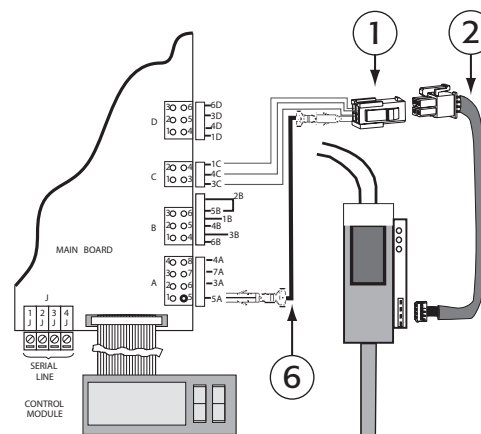

Fig. 5
2. connect cable "B" (6) from connector "Q" (1) to terminal "5A" on the board (Fig. 5), making sure the pins are completely inserted and checking correct coupling.